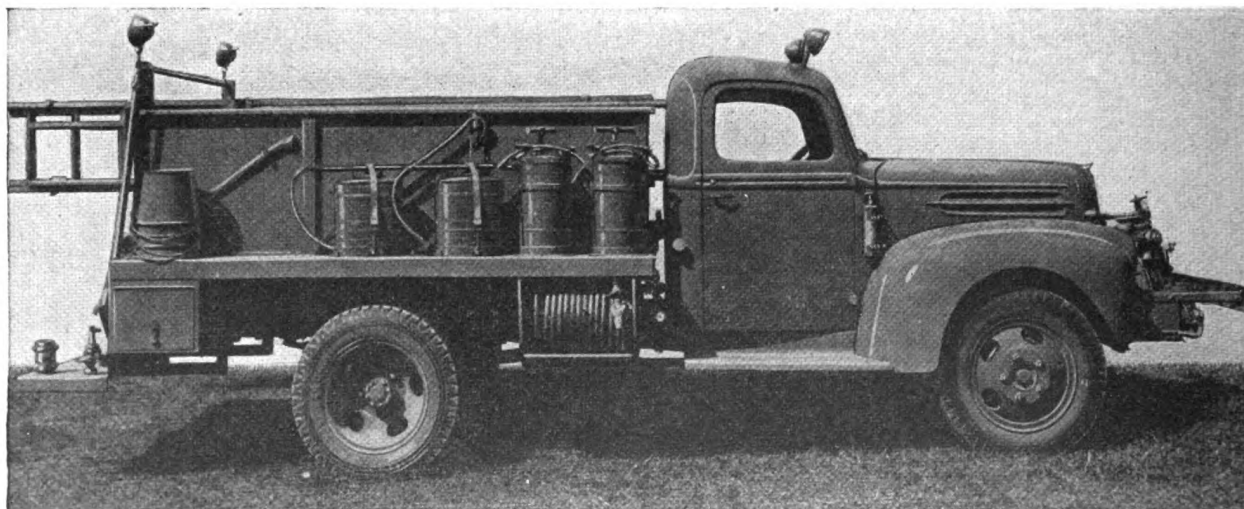
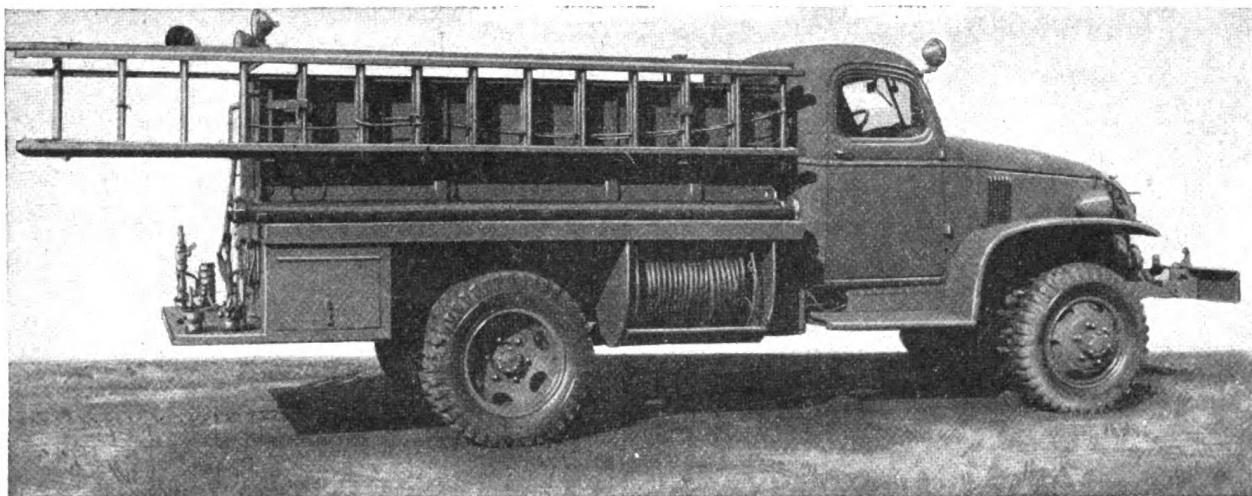

Figure 5. Class 325 fire truck, 4 x 2 chassis. (Stock No. 58-9120.909-325.)
Figure 6. Class 325 fire truck, 4 x 4 chassis. (Stock No. 58-9120.910-325.)
e. **CLASS 325 FIRE TRUCK.** The class 325 fire truck is designed for use where the water supply and distribution system is limited. It is issued on a 4x2 (fig. 5) or 4x4 (fig. 6) chassis with a platform type body and a 90- to 110-hp engine. It has a front-mounted 300-gpm pump, a booster water